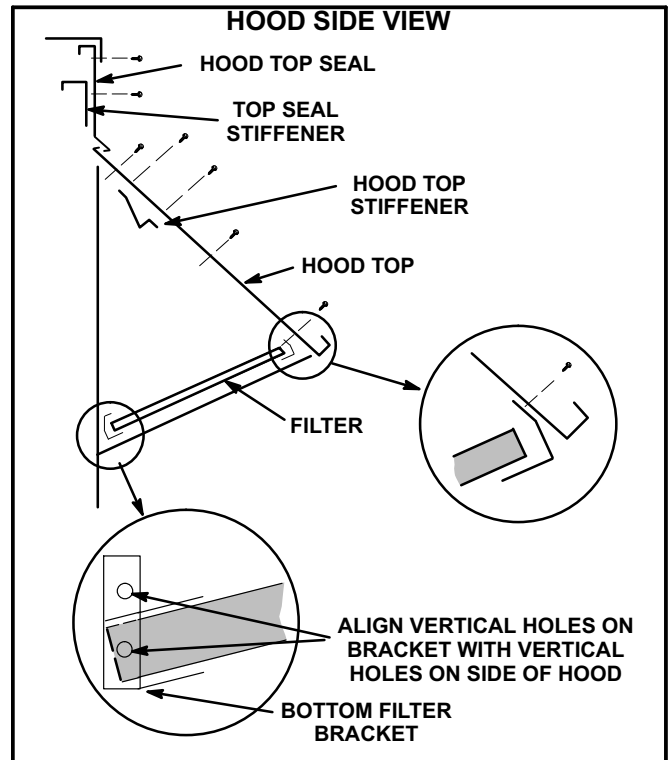

FIGURE 10
The outdoor air hood is packaged separately but attached to the damper assembly crate. Use #10 self drilling screws to install hood unless noted otherwise. Refer to figures 10, 11, 12, 13, and 14.
- 2- Secure top seal stiffener to back side of hood top seal. See figures 10 and 11.
- 5- Secure hood top stiffener to unpainted side of the hood top with ten screws. See figures 10 and 12.
- 6- Position the hood top edge V-channel under the corresponding V-channel on the hood top seal and slide into place from right to left. See figure 10 and 11.
- 14- Align the two holes on the left hood side with the two holes in the bottom filter bracket. See figures 10 and 13. Secure with screws.
- 15- Secure bottom filter bracket to right hood side in the same manner. See figures 10 and 14.
- 17- Secure the top filter bracket (long) to the hood top. See figures 10 and 12. Slide two filters into place.
- 18- Insert the third filter into the bottom filter bracket. Position the top filter bracket (short) as shown in figures 10 and 12. Secure the bracket to the hood top with screws.